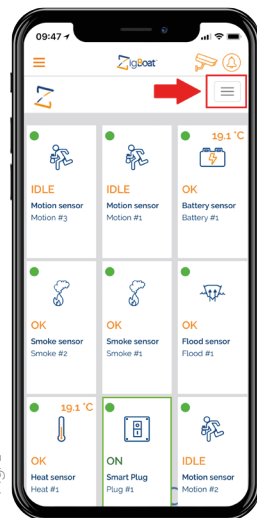

Fig. 1
- Open the ZigBoat™ App, select the Gateway in the ZB Gateway menu, wait a few seconds, then select the menu button on the top right (fig. 1) Select "Device list" (fig. 2). Add the sensor by entering the serial number which is on the sensor's label (fig. 3).